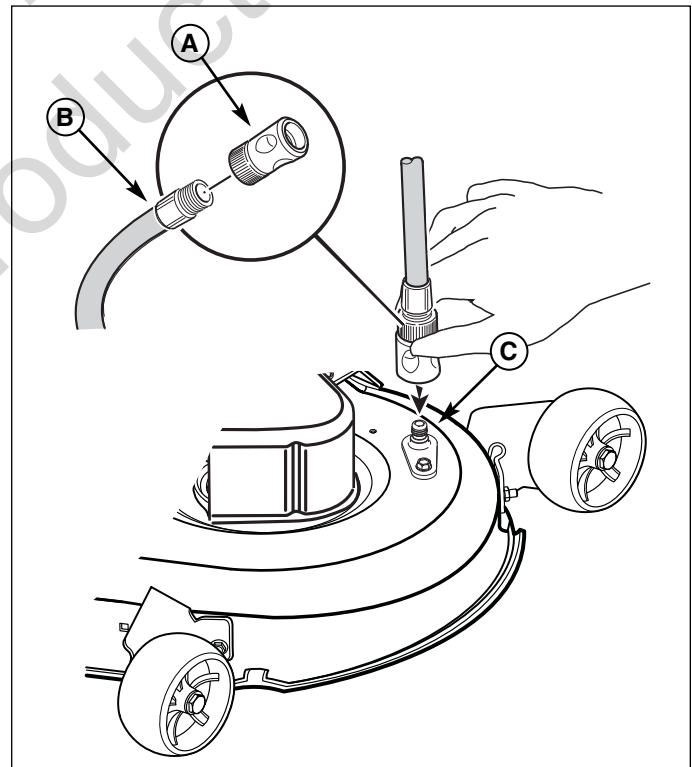

Figure 60. Mower Deck Washout Port
2. Attach the quick disconnect (A, Figure 60) to garden hose (B) and connect to washout port (C) on mower deck.